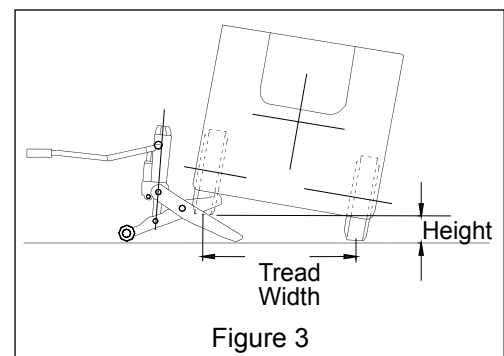

Figure 3
2. Use extreme caution when lifting narrow forklift (less than 40" wide) from the sides. Always make sure that the height between the floor and the bottom of the raised tire is never more than one fourth (1/4th) of the vehicle's tread width. See figure 3. (tread width is measured from centerline to centerline of the tire treads.) If the one fourth figure is exceeded, the forklift could reach the point of instability and tip over or the angularity of the forklift frame could cause the jack to kick out and drop the load. Example: If tread width = 36", then never lift the bottom of the vehicle tire more than 9" off the floor.